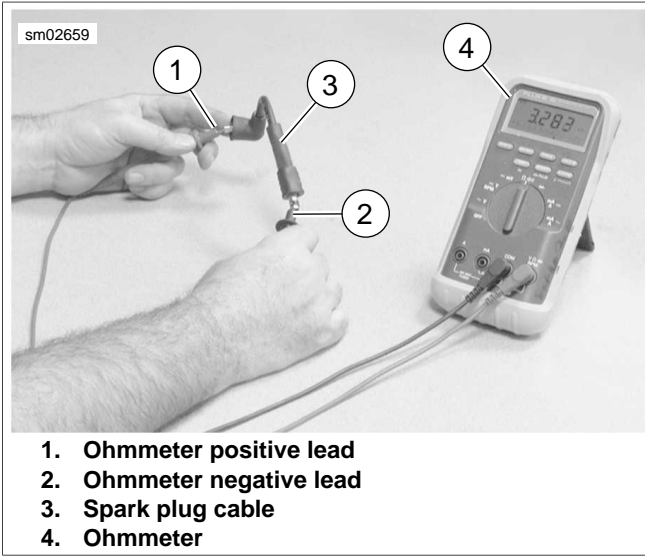

Figure 1-44. Testing Resistance
- See Figure 1-44. Check spark plug cable resistance with an ohmmeter. Compare values from test with Table 1-15. Replace cables not meeting resistance specifications.